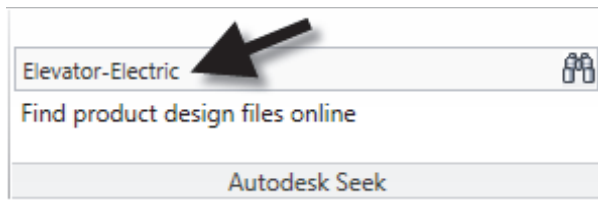

FIGURE 3-4.1 Insert tab; Autodesk Seek panel
3. Type in **Elevator-Electric** and then press **Enter** (Figure 3-4.1).